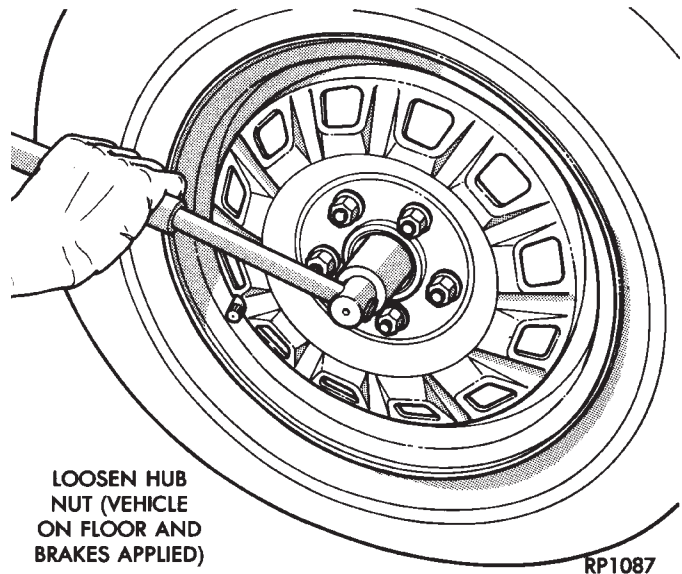
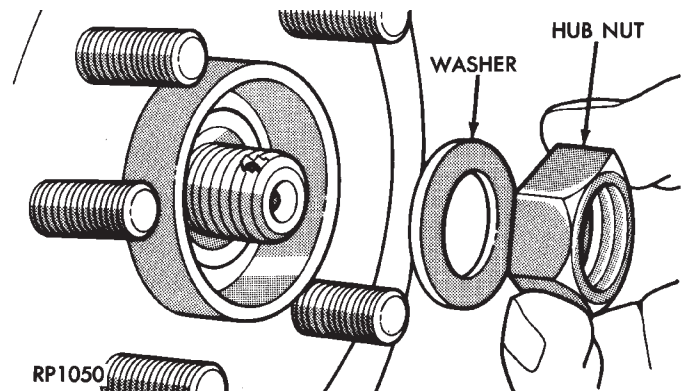

Fig. 4 Loosen Hub Nut & Wheel Nuts
Fig. 5 Remove Hub Nut & Washer Loosen Shaft
- (2) Loosen hub nut and wheel nuts while vehicle is on floor and brakes applied (Fig. 4).
- (3) Raise vehicle, see Hoisting in Lubrication and Maintenance, Group 0 of this service manual.
- (4) Remove hub nut, washer, wheel and tire assembly (Fig. 5).